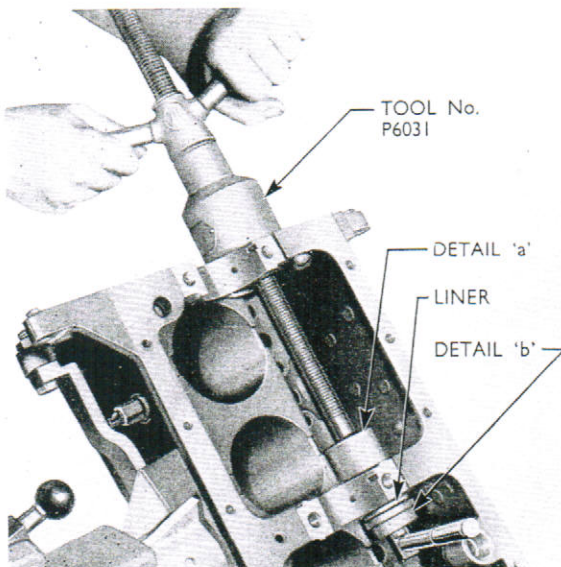

Fig. 14
1. **Fit new camshaft bearing liners** (using Tool No. P.6031 with adaptor set P.6031-3), shown in Fig. 14, if those at present fitted require replacement.